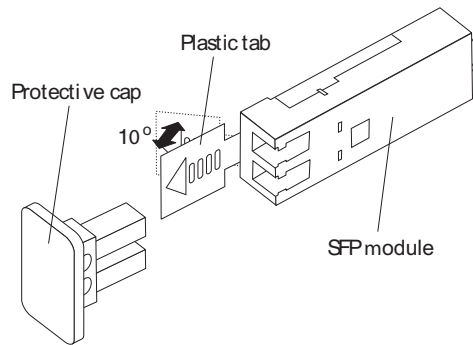

Figure 75. Unlocking the SFP module latch - plastic variety
- For SFP modules that contain plastic tabs, unlock the SFP module latch by pulling the plastic tab outward 10°, as shown in Figure 75.